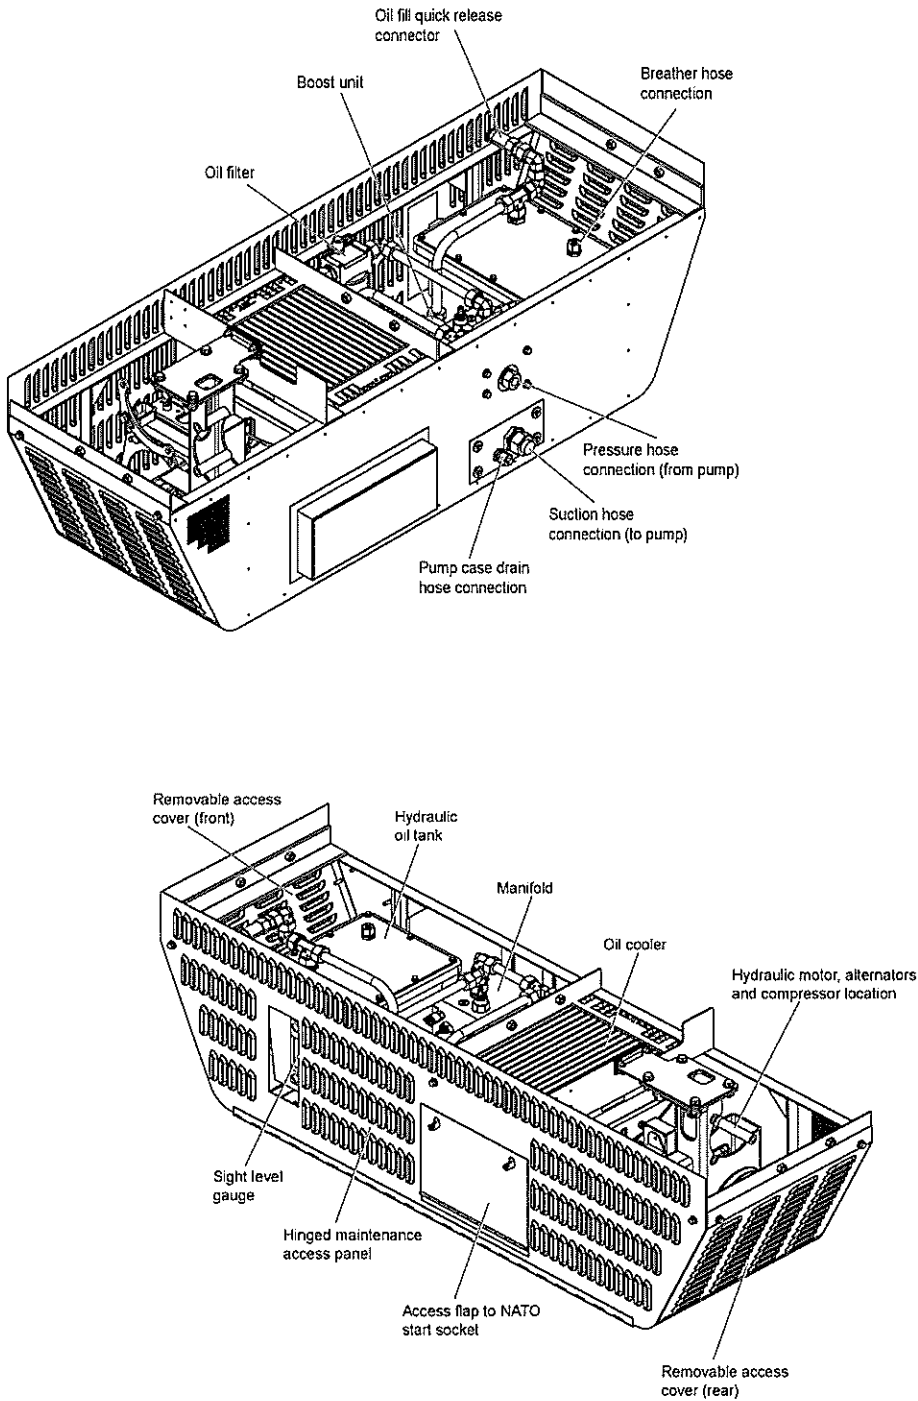
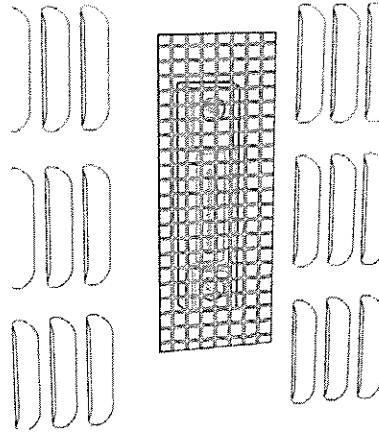
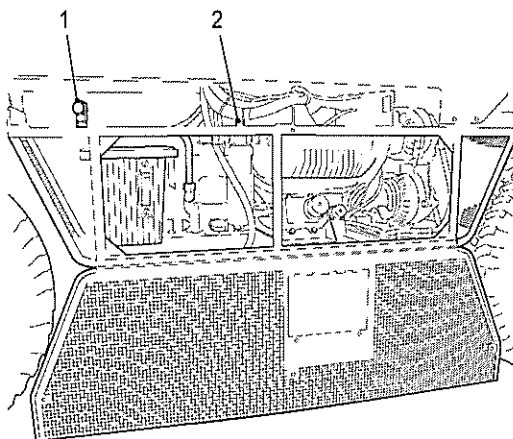

Fig 1 Hydraulic module component layout
Fig 2 Sight level gauge – hydraulic system
Fig 3 Hydraulic module access – side
7 The component layout in the hydraulic module is provided in Fig 1.
8 The level of the oil in the hydraulic module is indicated on the sight level gauge located in the side of the hydraulic system module on the left external side of the vehicle (see Fig 2).
10.1 Remove and retain the bolts securing the hinged maintenance access panel (see Fig 1) of the hydraulic module and open the panel (see Fig 2).
10.2 Connect the fill adaptor provided in the vehicle CES onto the quick release connector (see Fig 1 and Fig 3 (1)).
11 Air is expelled from the system via the air breather that is connected to the top of the tank (see Fig 1 and Fig 3 (1)). Once any hydraulic component is exchanged and/or the system oil is changed or topped up, run the engine at tick over for 2 minutes with the air conditioning switched off.
17.5 Place a suitable drain tray on the ground under the hydraulic module beneath the hydraulic hose connections at the in board side of the module (see Fig 1).
17.7 Remove and retain the bolts securing the hinged maintenance access panel (see Fig 1) of the hydraulic module and open the panel (see Fig 3).
17.11 Disconnect the breather hose from the connection on the top of the hydraulic oil tank (see Fig 1).
21 A filter blocked indicator is provided on the oil filter (see Fig 1) head. To check the filter blocked indicator proceed as follows:
21.1 Remove and retain the bolts securing the hinged maintenance access panel (see Fig 1) of the hydraulic module and open the panel (see Fig 3) and check indicator (see Fig 3 (2)).
23.2 Remove and retain the bolts securing the hinged maintenance access panel (see Fig 1) of the hydraulic module and open the panel (see Fig 3).
27.2 Remove and retain the bolts securing the hinged maintenance access panel (see Fig 1) of the hydraulic module and open the panel (see Fig 3).
32.2 Remove and retain the bolts securing the hinged maintenance access panel (see Fig 1) of the hydraulic module and open the panel (see Fig 3).